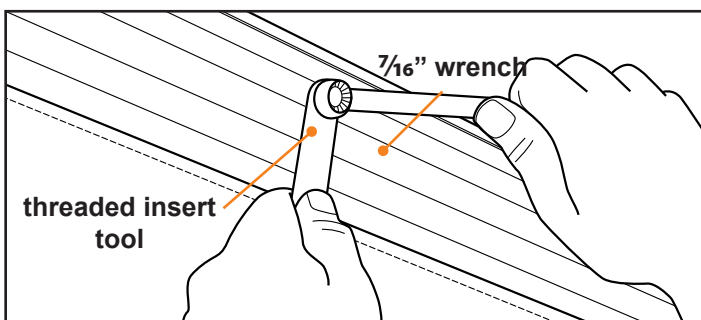

Fig.6
7. Tighten the bolt to set the threaded insert fastener with the $\frac{7}{16}$ " wrench while holding the threaded insert tool stationary (Fig.6).